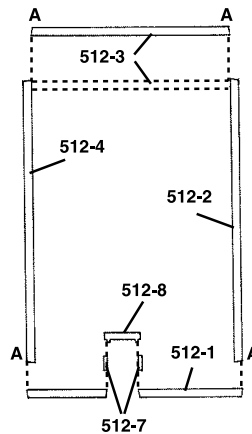

Fig. 1
1. The edges of all parts are angled (draft angle) so they can be removed from the mold. It is necessary to remove this angle from the front edges of the side walls 512-2 and 512-4 and both edges of the back wall 512-3 to allow flush fit with adjoining walls. Note: The edges to be squared do not have brick detail and are marked "A" (Fig. 1). To square the edges, thumbtack a piece of 150 grit sandpaper to a board and push and pull the part back and forth evenly on the sandpaper until the edge is square with the wall (Fig. 2).
2. Cut two entry door side panels 512-7 from white styrene stock (.156" x .02"). Make them the same height as the entry door casting 512-8. Glue side panels to entry door as shown (Fig. 1 and 3). Now glue fronts of side panels to back of entry door on building front (Fig. 3).